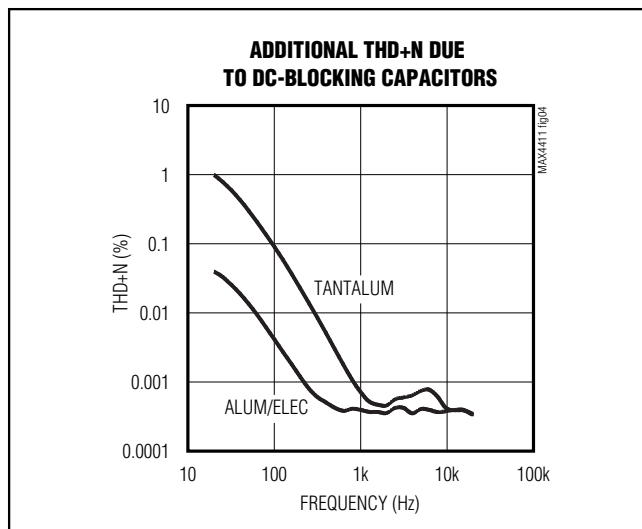

Figure 4. Distortion Contributed by DC-Blocking Capacitors
- 2) The voltage coefficient of the DC-blocking capacitor contributes distortion to the reproduced audio signal as the capacitance value varies as the function of the voltage across the capacitor changes. At low frequencies, the reactance of the capacitor dominates at frequencies below the -3dB point and the voltage coefficient appears as frequency-dependent distortion. Figure 4 shows the THD+N intro-